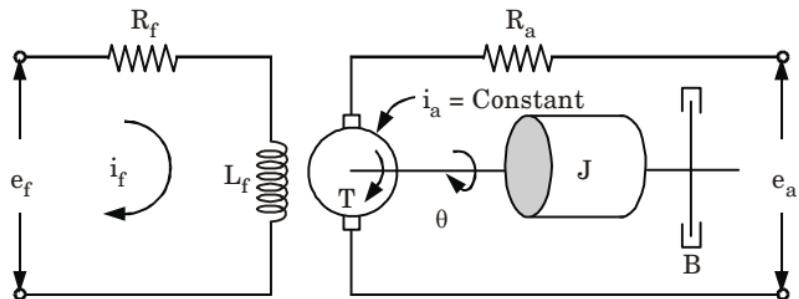

Fig. 1.7.1.
1. A schematic diagram of a field controlled DC motor (DC servo motor) shown in Fig. 1.7.1.